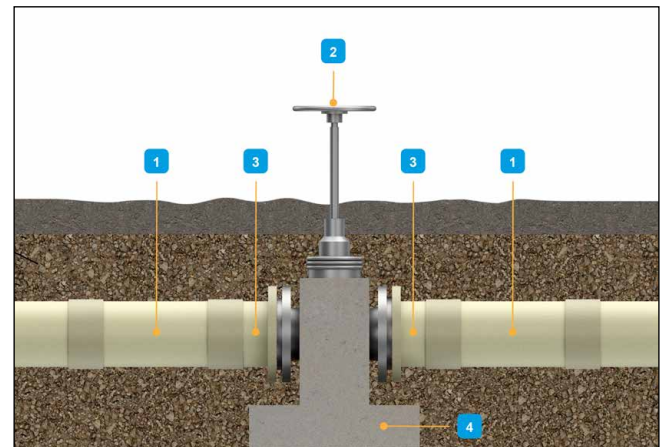

Fig. 77: Type 1 – Valve encased in thrust block
The cheapest and easiest way to install a small diameter valve is to directly bury it, encapsulated it in its concrete thrust block (see Fig. 77).
- The flanged stubs should be no more than 1000 mm in length, with an Amiblu coupling on the outside leg connecting the stub to a rocker pipe (Fig. 77).